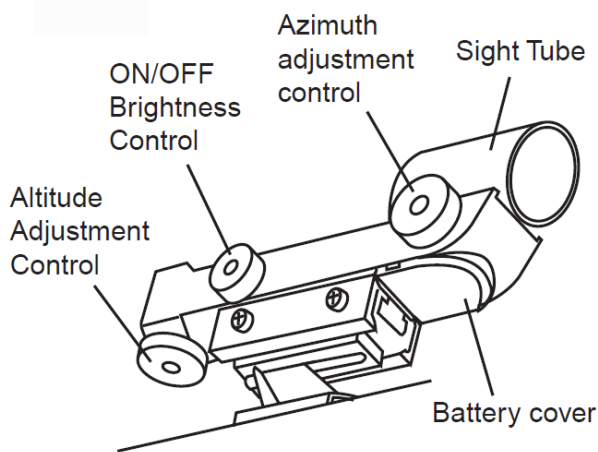

Fig.5.1.2a
- The Red Dot Finder is a zero magnification pointing tool that uses a coated glass window to superimpose the image of a small red dot onto the night sky. The Red Dot Finder is equipped with a variable brightness control, azimuth adjustment control, and altitude adjustment control (Fig.5.1.2a). The Red Dot Finder is powered by a 3-volt lithium battery located underneath at the front. To use the Finder, simply look through the sight tube and move your telescope until the red dot merges with the object. Make sure to keep both eyes open when sighting.